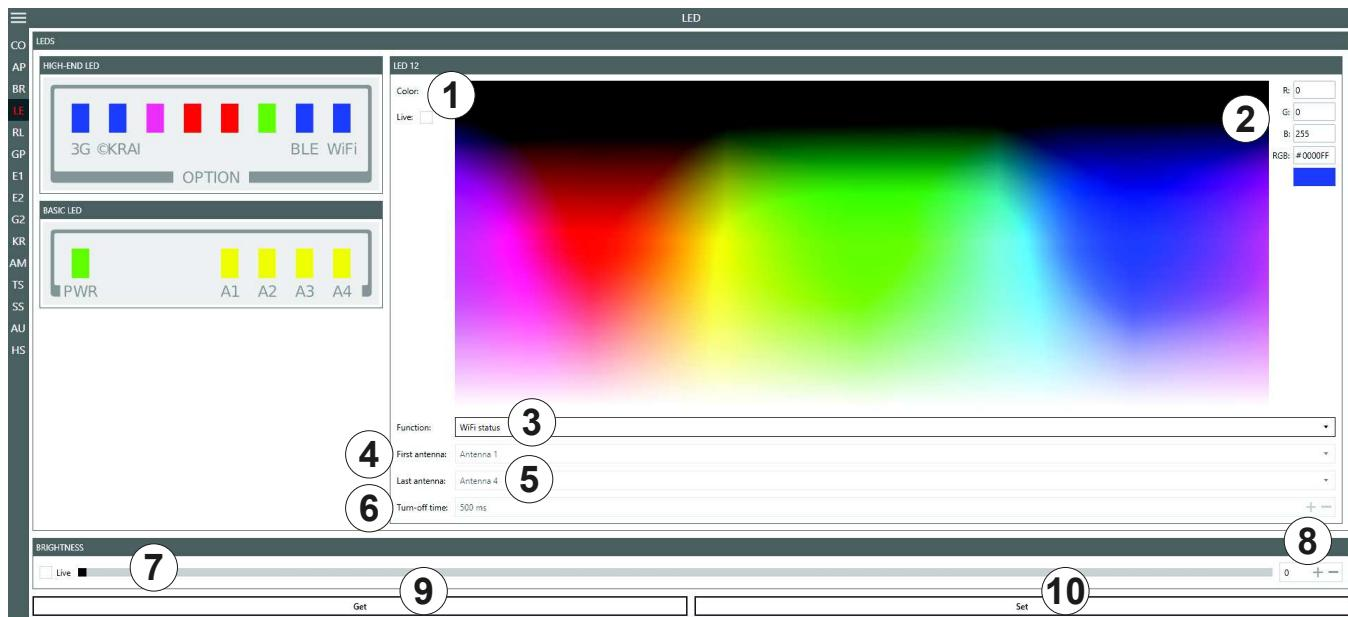

Fig. 48: LED
- Click on the arrow (③ in Fig. 48, p. 87) to select between the following functions: